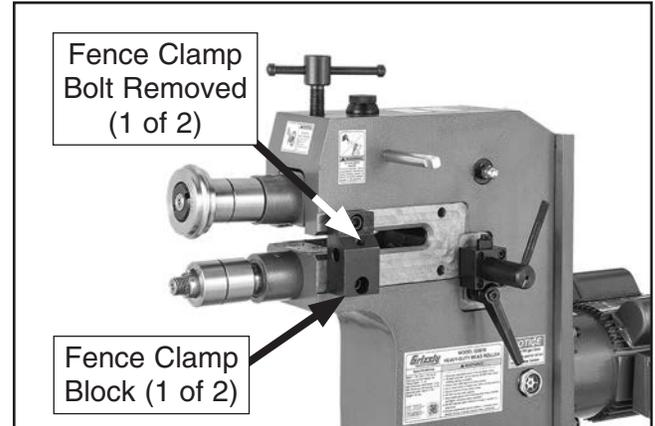

Figure 26. Fence assembly removed.
5. Remove clamp bolts from clamp blocks (one on each side of machine), then remove fence assembly (see **Figure 26**).